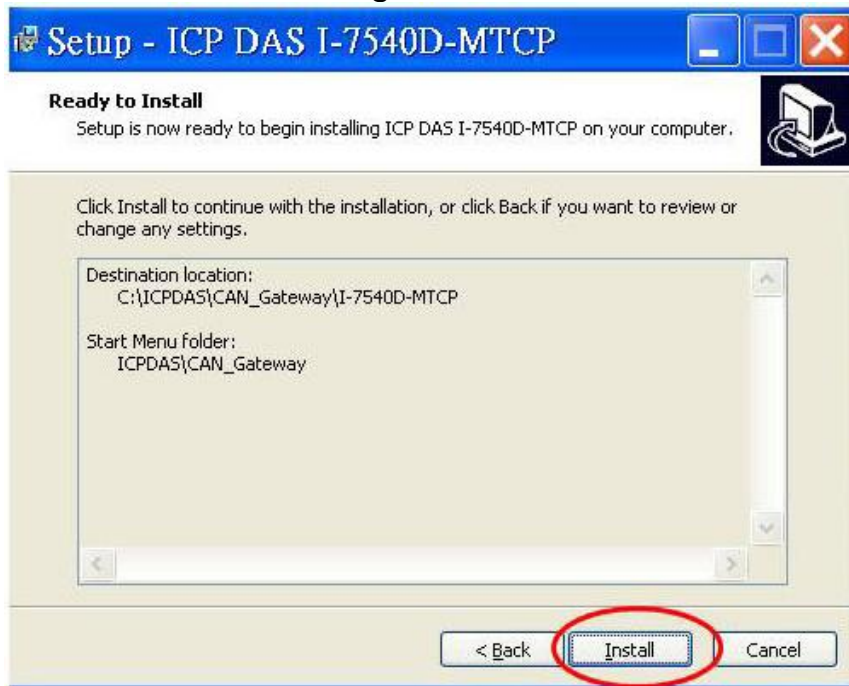

Figure 3-5: “Ready to Install” dialog
Step 6: Click “Install” button and start to install the I-7540D-MTCP Utility to the system. After finishing the process, a “Complete” window will pop up to prompt users that the successful completion of the installation. And click “Finish” button to exit. See figure 3-5.